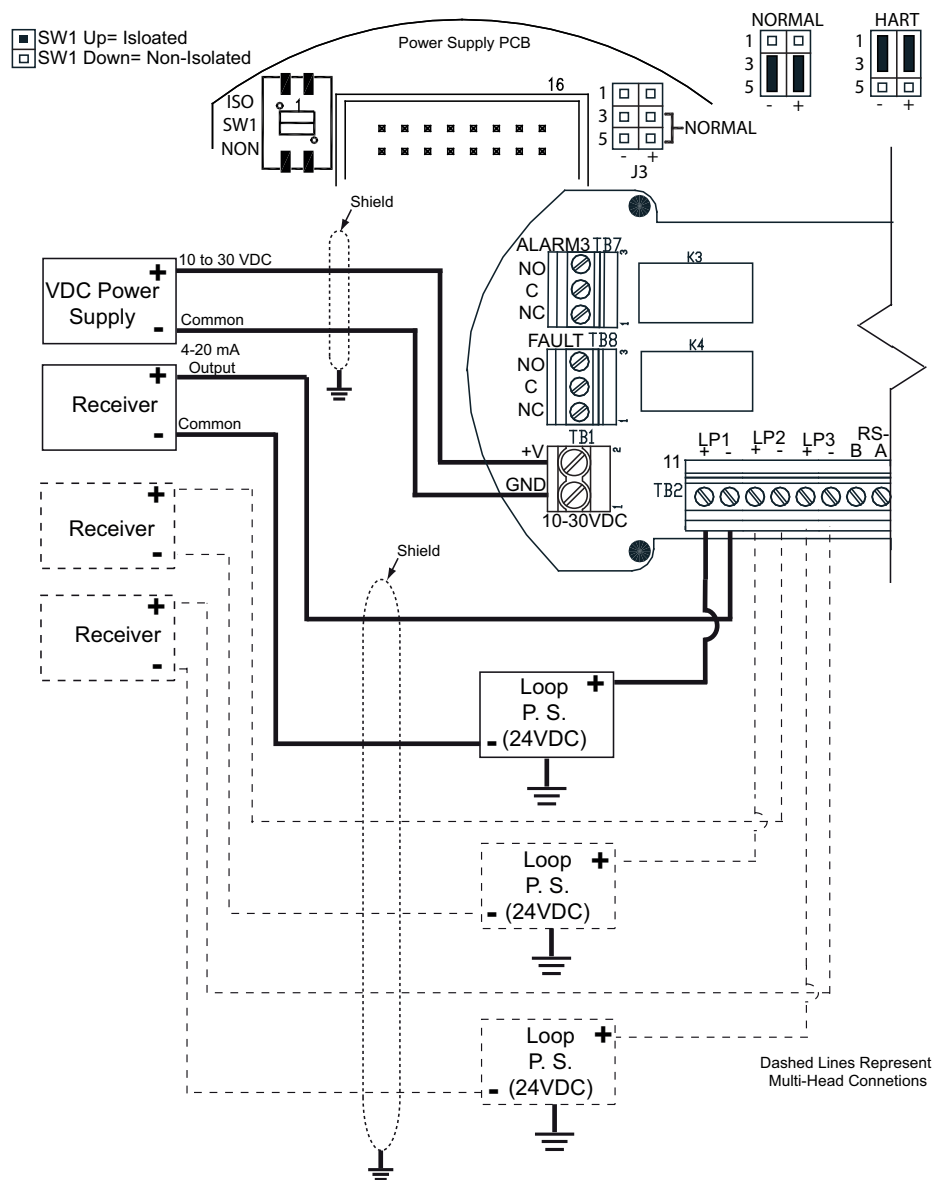
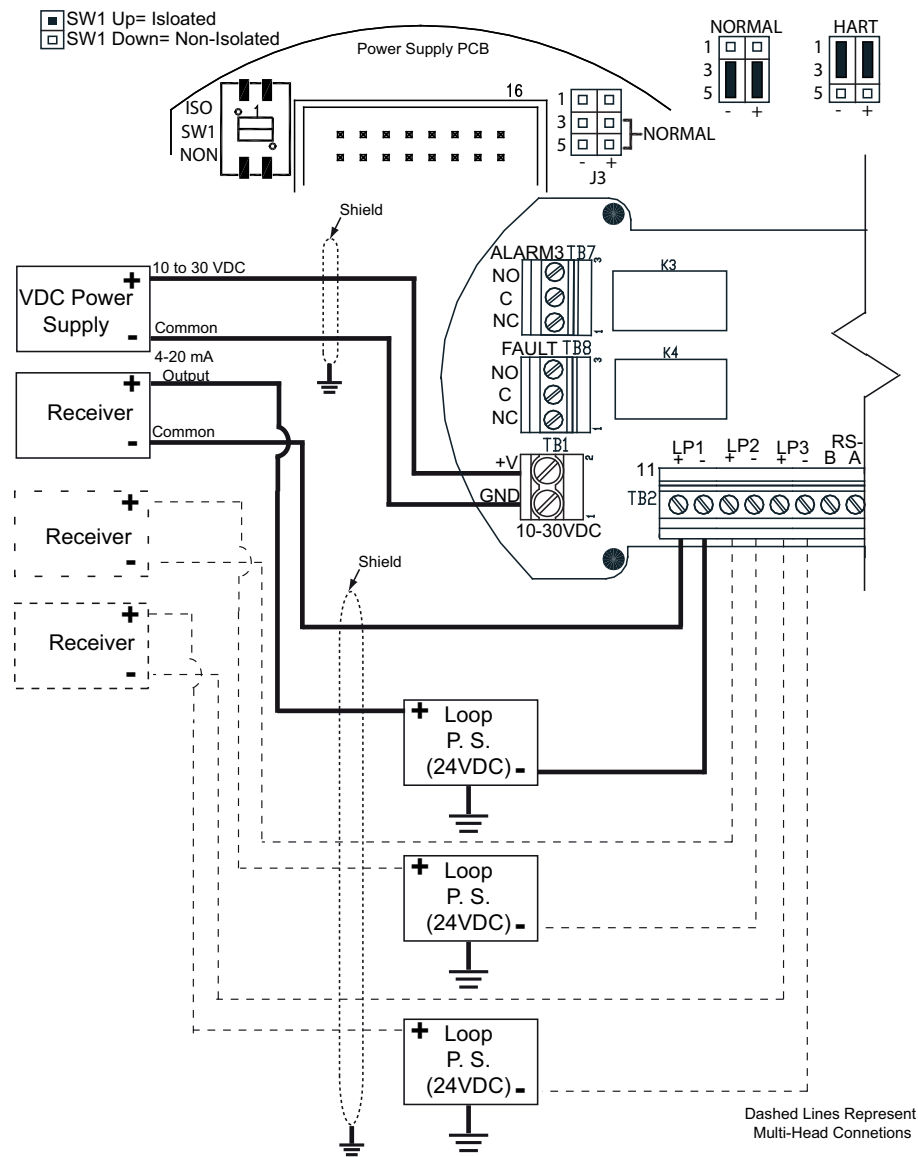

Figure 4-17: Connection for 4-Wire Sourcing with Isolated Loop Power Supply
Figure 4-18: Connection for 4-Wire Sinking with Isolated Loop Power Supply
5. Connect positive (+) and negative (-) leads from receivers) to TB2 on the terminal/relay/MODBUS RS-485 PCB (refer to Figure 4-17: Connection for 4-Wire Sourcing with Isolated Loop Power Supply and Figure 4-18: Connection for 4-Wire Sinking with Isolated Loop Power Supply for details).